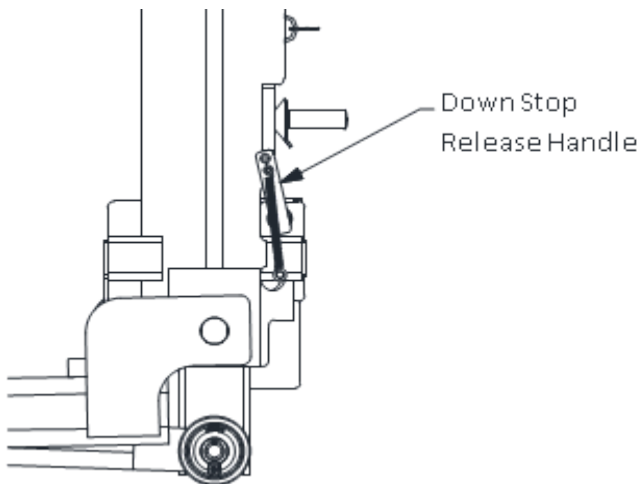

Figure 4
4. Release the Down Stop Pawl by pushing the Down Stop Release Handle toward the lift, as shown in Figure 4.
If you decide to raise the vehicle again before it has been fully lowered, you must reset the Down Stop Pawl. To manually reset the Down Stop Pawl, pull the Down Stop Release Handle toward you on the lift (See Figure 4).